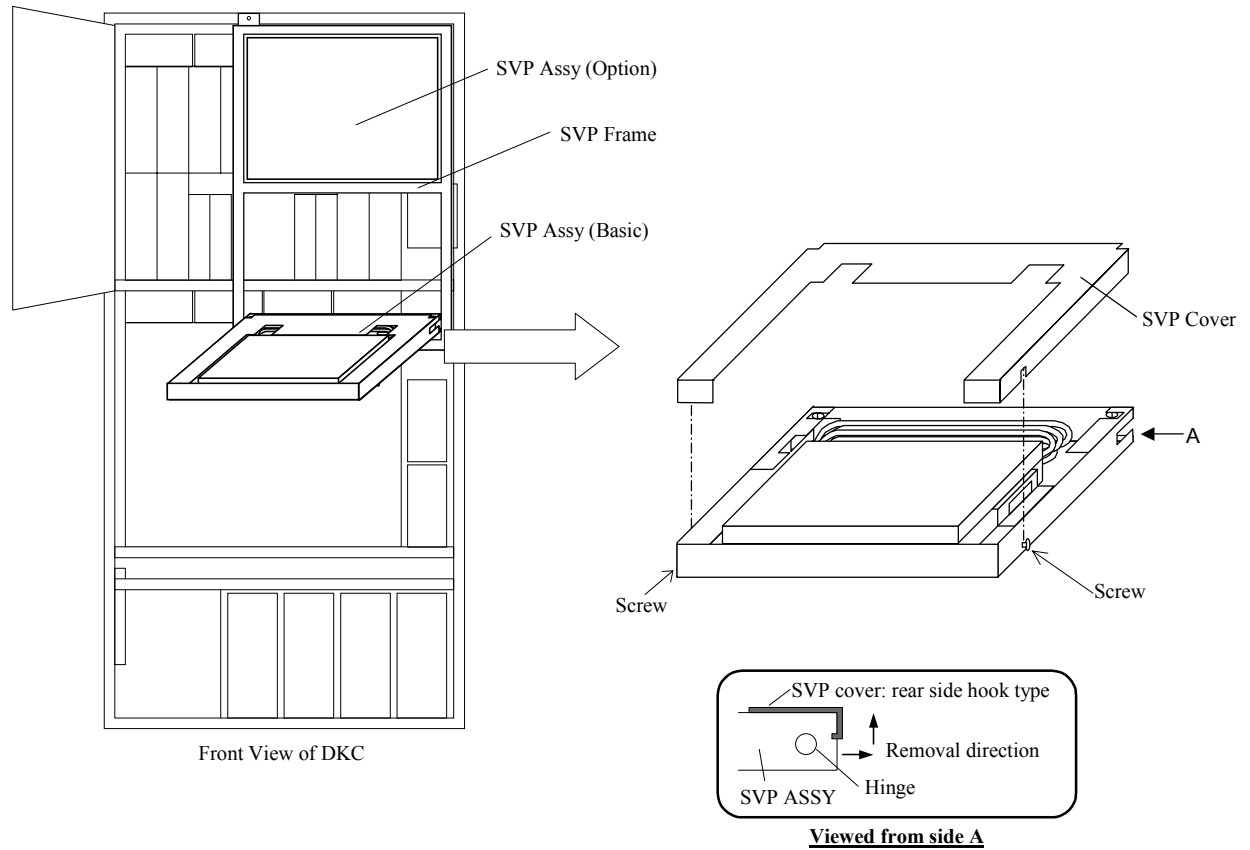

Fig. T7.1-9 Removing SVP cover
4. Loosen the screws and remove the SVP cover. (See Fig. T7.1-9 [REP03-520].)
6. Loosen the screws and remove the SVP cover. (See Fig. T7.1-9 [REP03-520].)